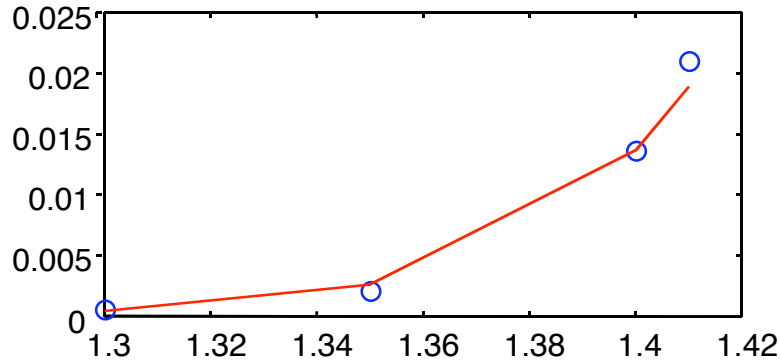

Fig. 1. Linear regression fit (solid line) to LED data (circles) in i - v format.
The Matlab™ script "lin_reg_diode.m" in Appendix B finds the values of a_0 and a_1 that give the best fit, (in the least-squares sense), of the data in Table I to the line described by (4). Note that lin_reg_diode.m employs the Matlab™ backslash, \backslash , operator to compute the optimal linear regression (or least-squares) fit. Fig. 1 shows the fit obtained. Table II lists the values of a_0 and a_1 , as well as the values of I_s and V_T obtained from a_0 and a_1 by the following equations:
The parameters for the LED Shockley law model, (found by linear regression and the Matlab™ "fmins" function), differ slightly, (see Tables II and III). For both sets of parameters, however, we obtain nearly the same resistor value of 2 kΩ for the driver circuit shown in Fig. 1.